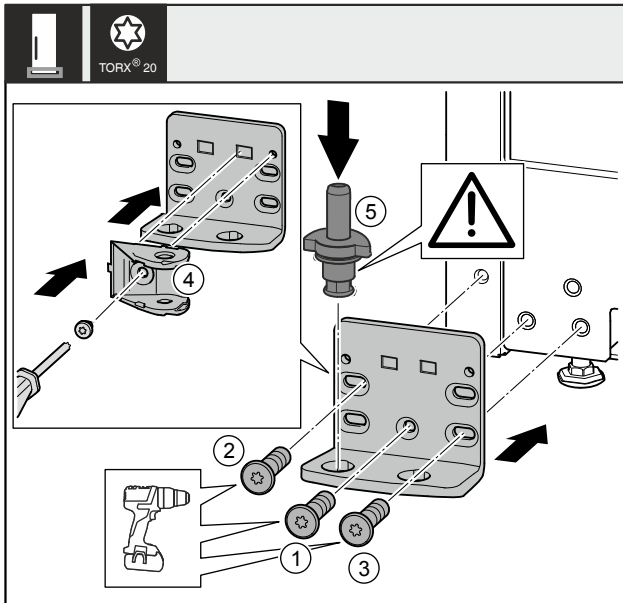

Fig. 37 *
- ▶ Place the swap bearing block on the other side and use a screwdriver to screw it on. Start with screw Fig. 37 (1) at the bottom in the middle.*
- ▶ Tighten screw Fig. 37 (2) and screw Fig. 37 (3)*
- ▶ Turn the closing damper connection Fig. 37 (4) by 180°. Use screwdriver to screw it onto the other side of the swap bearing block.*
- ▶ Insert the bearing bolt Fig. 37 (5) completely. Ensure that the latching cam is pointing towards the rear.*